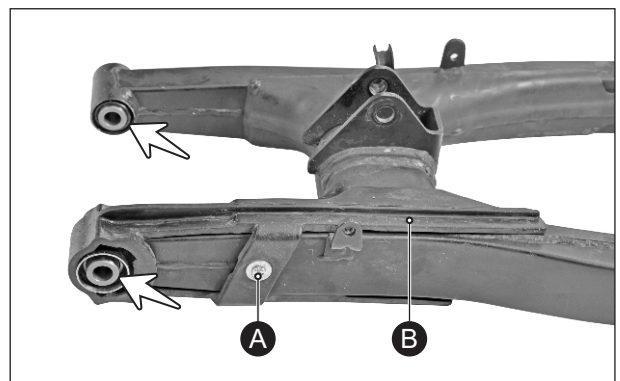

Fig. 6.144
- Remove CRR pan head screw (M6x16 - 1 no.) (A) along with the punched washer and take out buffer chain (B) from the swing arm assembly. (Fig. 6.144)
- Draw out both the bush swinging arm (Fig. 6.144) and check the needle bearing for any damage or abnormality. If found any replace the needle bearing as set. Follow the below procedure described below: